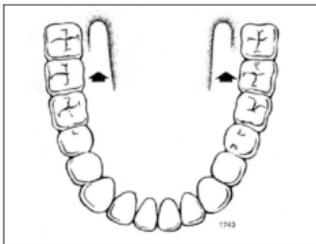

Figure 1-1
3.1.1. Have patient open mouth slightly. Holding the probe loosely. Insert probe tip to the sublingual pocket where the richest blood supply is located (see Figures 1-1 and 1-2).